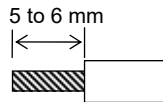

Figure 6. Sheath strip length
- 2) Use $\Phi 5.5$ to $\Phi 6.0$ mm cable (JIS VCTF (0.3 mm² x 4 cores) cable recommended) for connection. Strip 5 to 6 mm sheath of each lead wire. (See Fig. 6.)